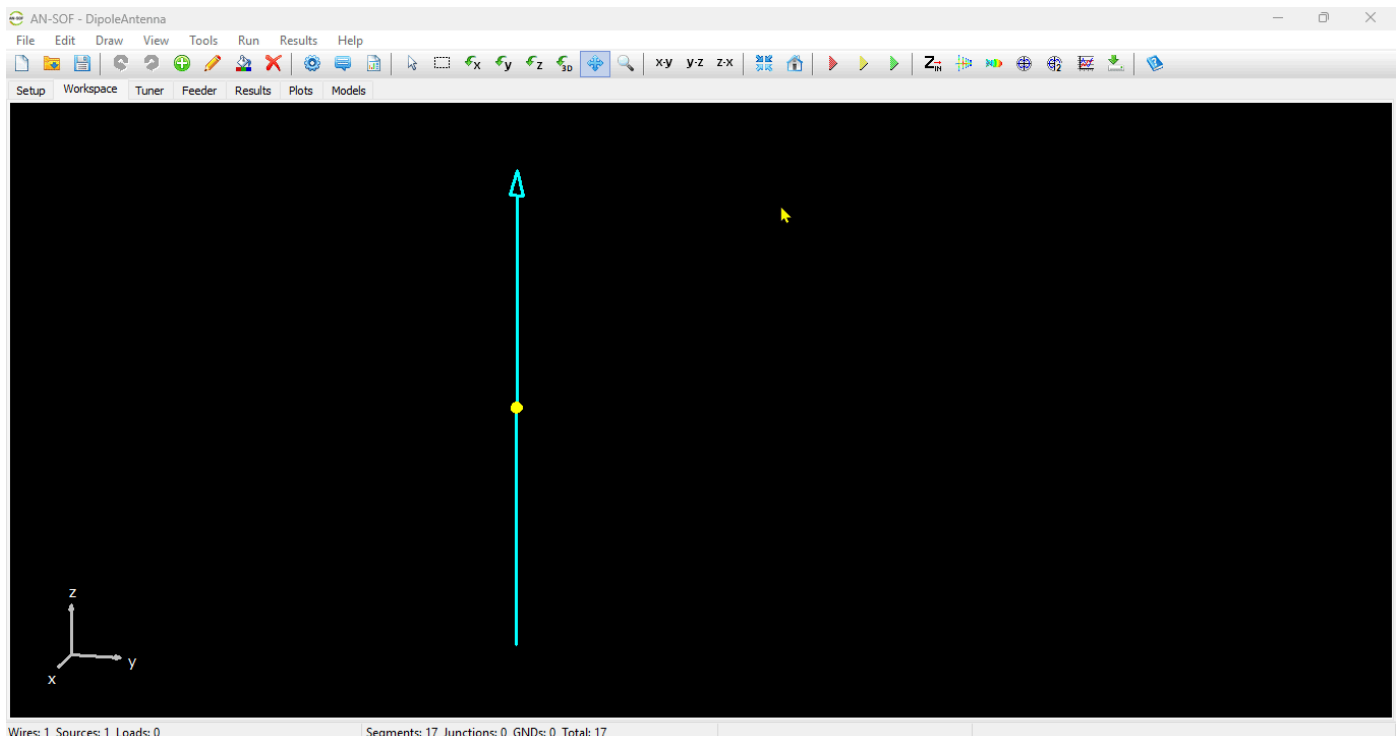

Fig. 2: Modifying the cross-section of a selected wire.
1. **Select the Wire:** Right-click on the wire in the workspace and choose **Modify** from the pop-up menu (**Fig. 2**).